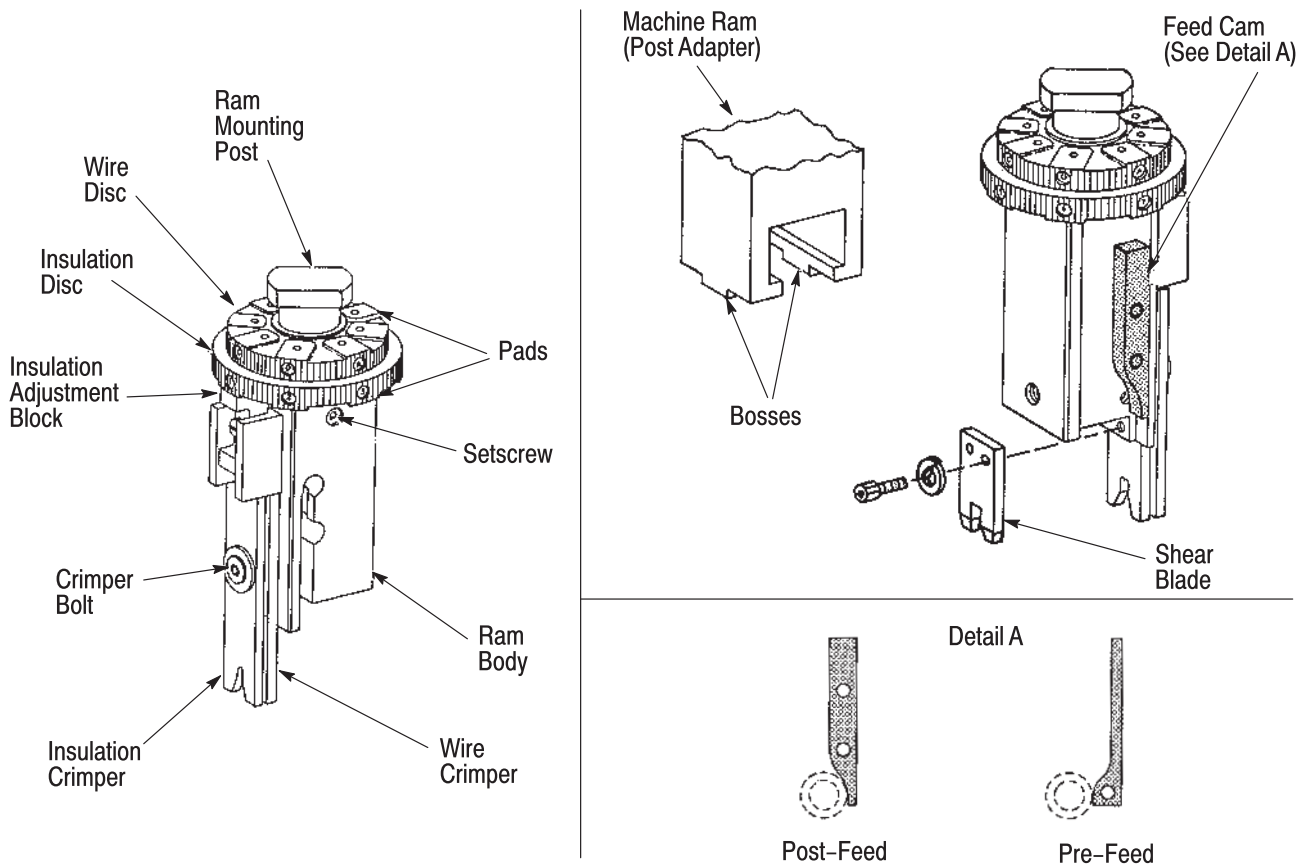

Figure 3
The ram mounting post of the ram assembly (shown in Figure 3) engages with the post adapter of the machine ram, and it is the machine ram that actuates the applicator. Just below the ram mounting post is a
wire disc and an insulation disc. The wire disc has as many as four pairs of pads, with each pair being of a different height. By rotating the disc, each of the several pairs can be aligned with the two bosses on the machine ram (post adapter) to vary the depth of stroke of the wire crimper over the anvil (refer to Figure 3).
2. Rotate applicator's wire disc (upper disc) to align selected pad letter with bosses on machine ram (post adapter). See Figure 3. This will provide proper crimp height for that wire size.